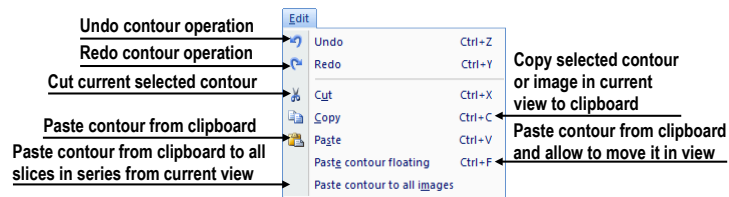

Figure 37 – Edit menu
- **Edit** – clipboard operations with images in the current view and the selected ROI contour, see Figure 37.